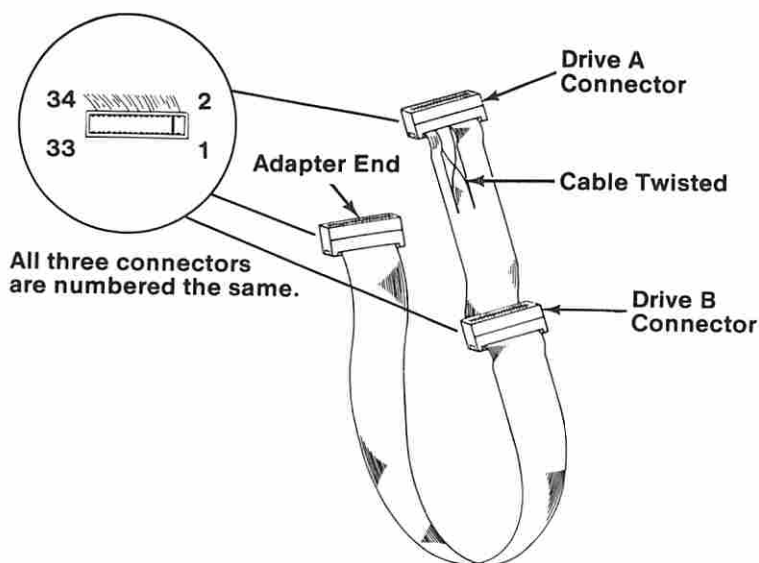

Figure 9. Signal Cable Pin Locations
- Refer to Figure 9 on page 0600-13 to locate the test points on the signal cable.